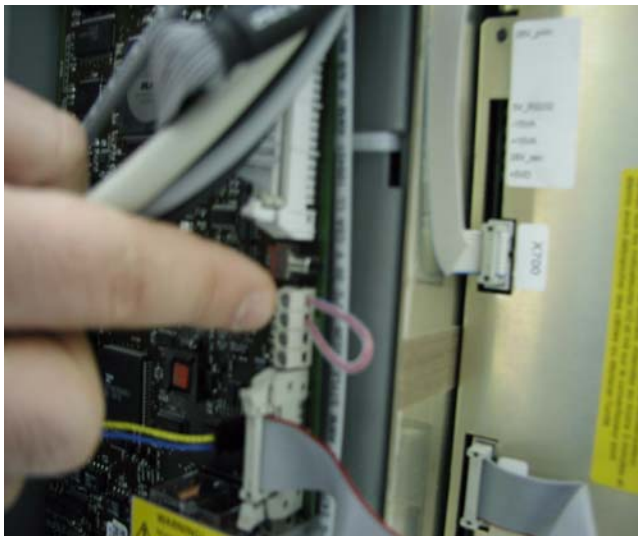

Fig. 4 Connecting the door switch
1. To connect a door switch, remove the jumper from the X754 (Pin 1,2) located on the master board D750 (see Fig. 4) and connect the door switch instead.
If a radiation protection door switch is not used, a jumper (see Fig. 4) on the master board 750 at connector X754 (Pin 1,2) has to be inserted.